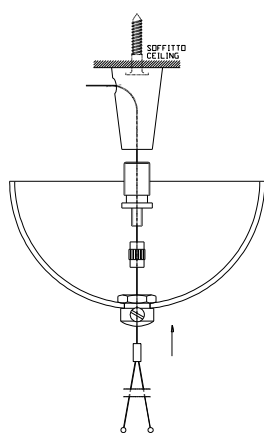

Figure 6 - *Figure 6*
- Insert the Y wire through the elements B3, B2 and B1, as in figure 6.